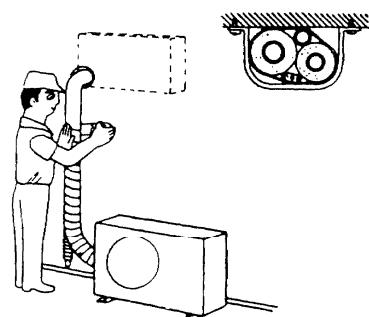

Fig. 32
- b) Wrap the armoring tape from the bottom of the outdoor unit to the top of the tubing, where it enters the wall. As you wrap the tubing cover half of each previous tape turn. Fig. 32